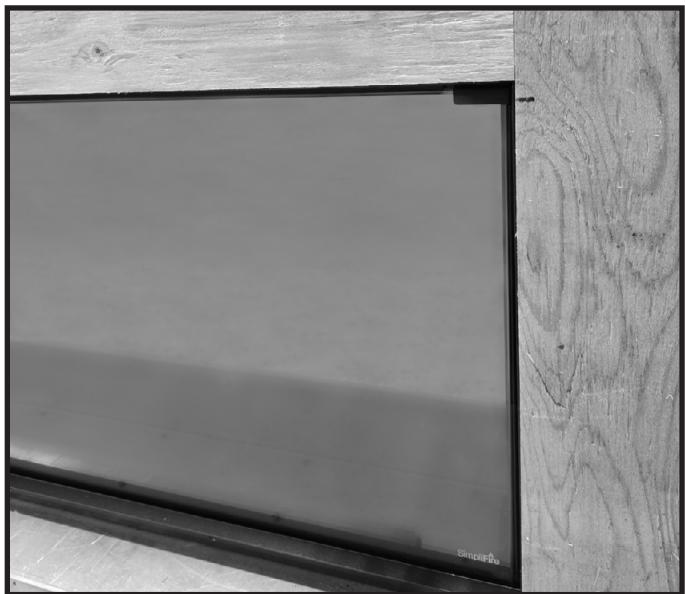

Figure 4.10 Installed With No Front
- Install without front trim: Ideal for thicker finishing materials such as stone or brick with a combined thickness greater than 1 in. See Figure 4.10.